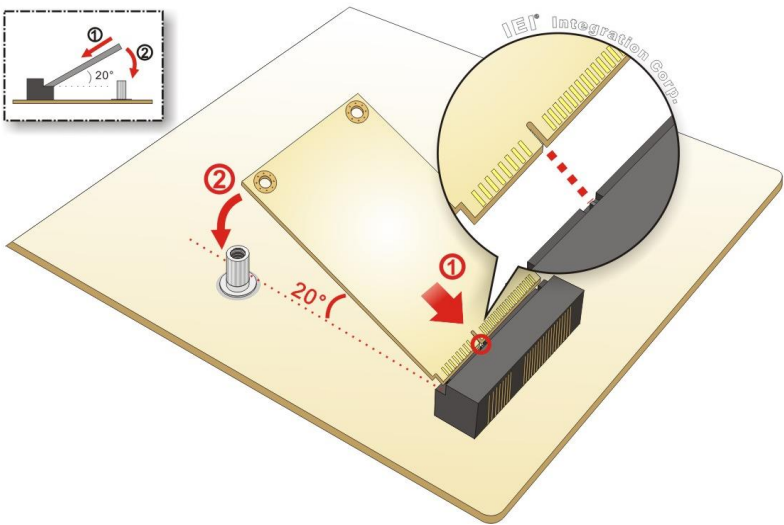

Figure 4-8: Inserting the Full-size PCIe Mini Card into the Slot at an Angle
- Step 3:** Insert into the socket at an angle. Line up the notch on the card with the notch on the slot. Slide the PCIe Mini card into the socket at an angle of about 20° (**Figure 4-8**).